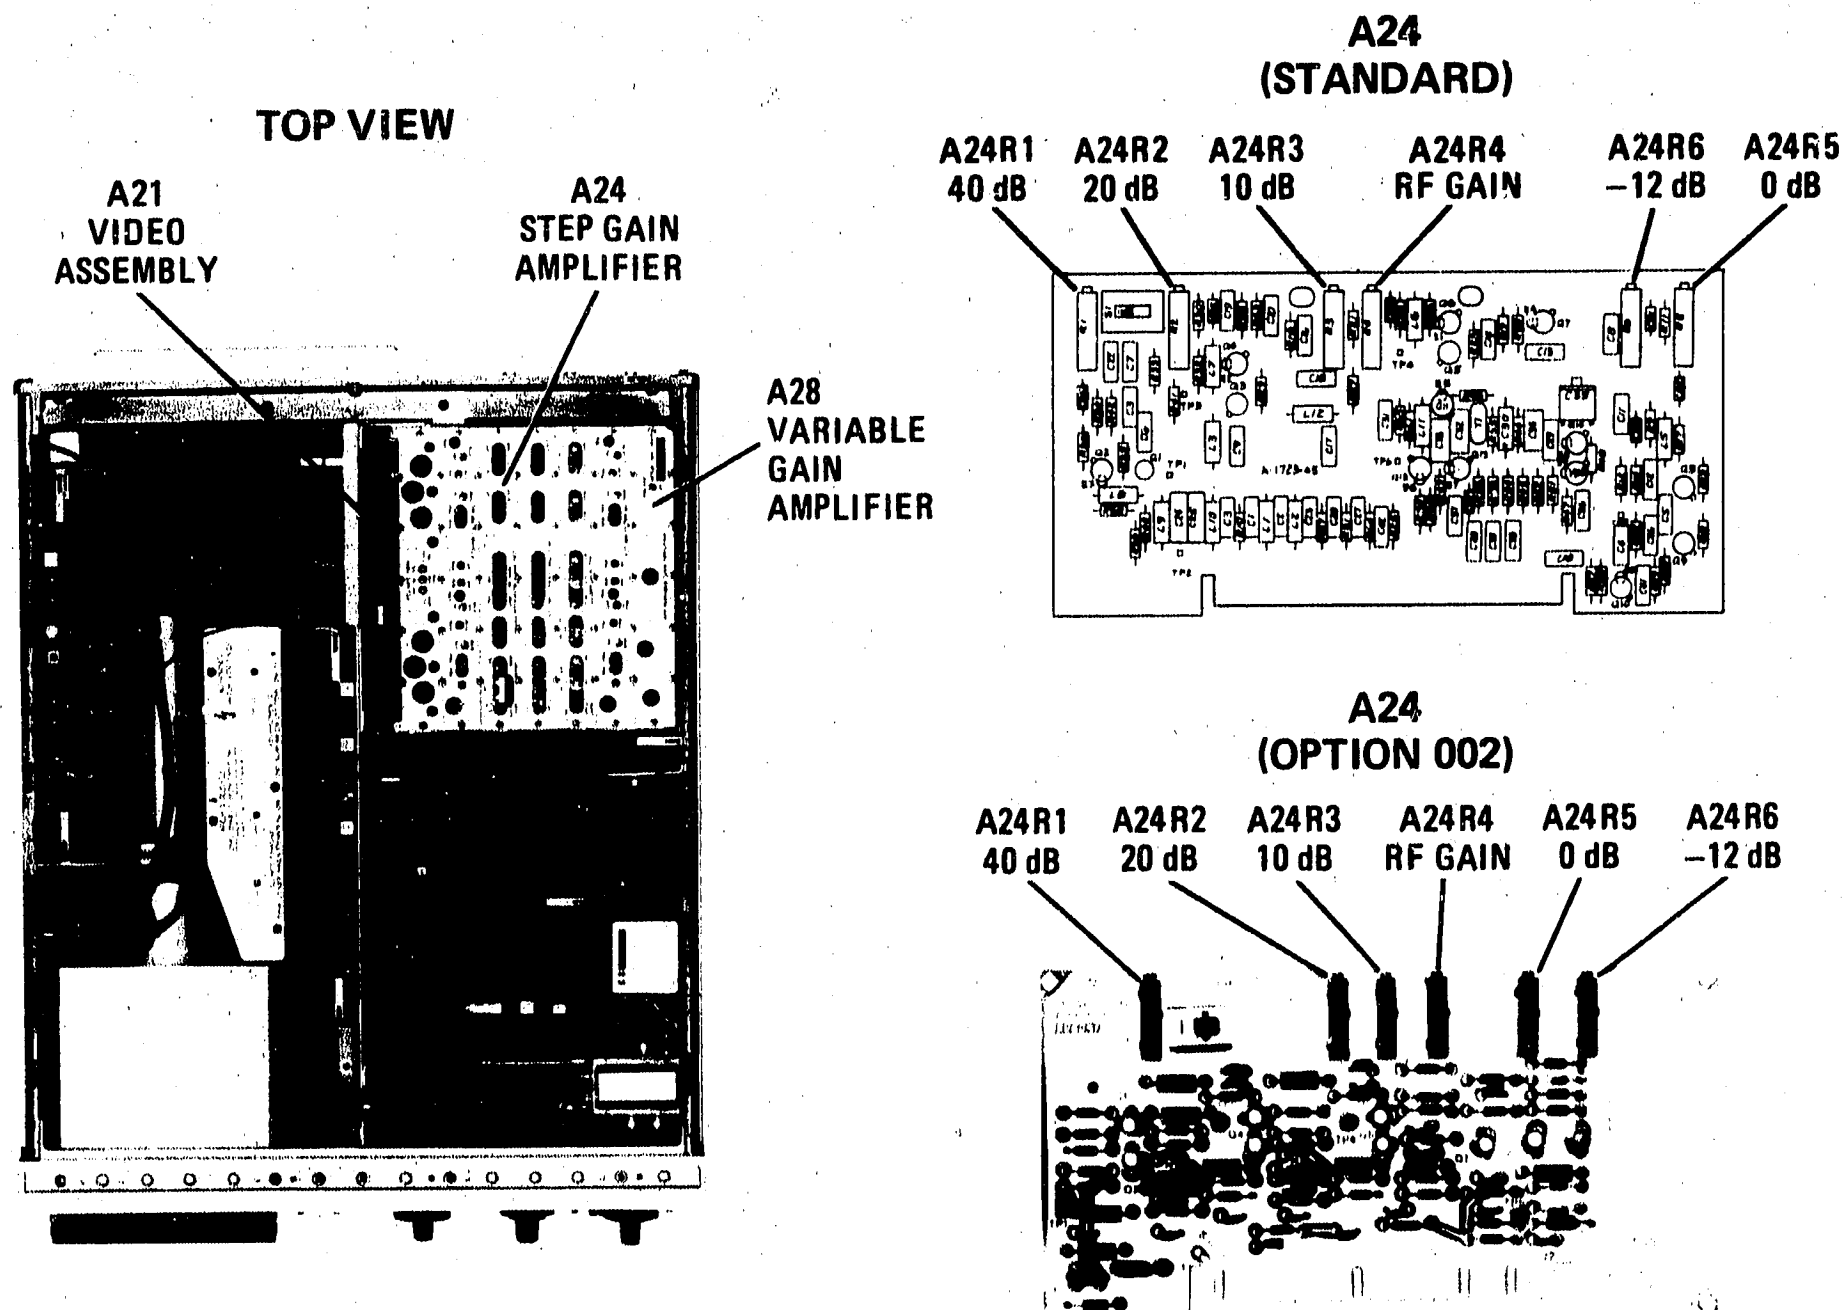

Figure 5-25. Step Gain Adjustment Locations
- 7. Adjust A24R6 -12 dB (Figure 5-25) clockwise until trace stops rising. Then adjust A24R6 counterclockwise to set signal level 0.4 division below maximum.